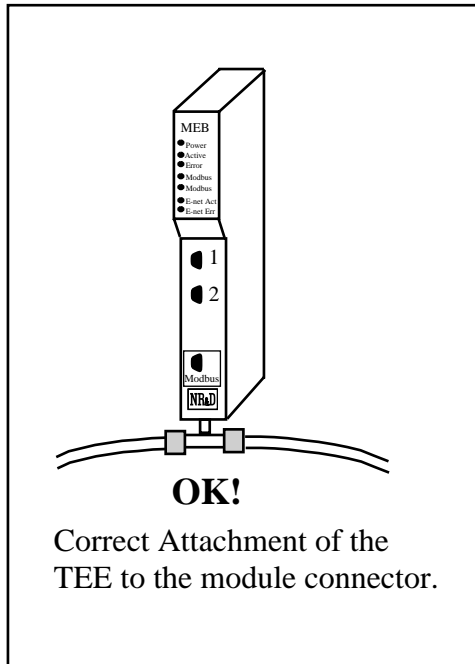

Figure 2-10 Correct TEE connection
- 1 Connect a coaxial TEE to the connector on the bottom of the MEB. This connection must be made directly. It is not permitted to use any length of cable from the TEE to the connector on the MEB. A direct connection without the use of TEEs and Terminators are also not permitted. See Figures 2-10, 2-11 and 2-12.